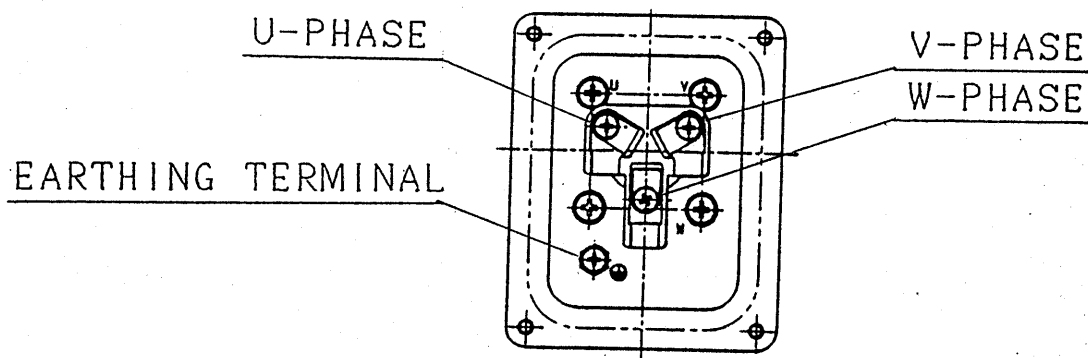

Fig.3
- Connect the cable to the terminal block as illustrated in Fig. 3.
(Refer to Subsection 5-3 "Electric Wiring", (Fig. 3).)